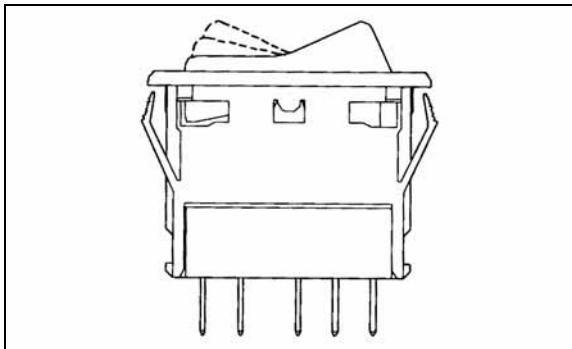

FIGURE 53: SWITCH
3. To install a new switch, reverse the procedure (Figure 53).